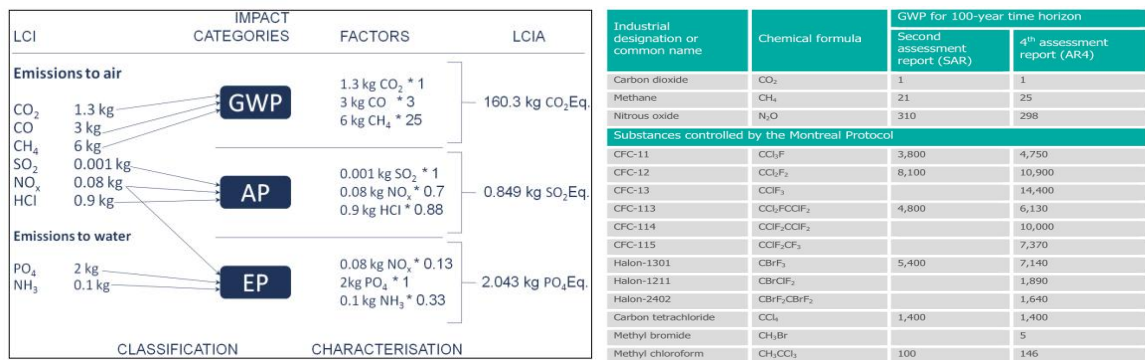

Fig. 2. Life Cycle Impacts Analysis steps and a few impact factors for CO₂ Eq.
3. Impact assessment phase. The 3rd phase of LCA is also known as Life Cycle Impact Analysis (LCIA). LCI results allow you to calculate the LCIA of the system. LCIA identifies and evaluates the amounts and significance of the potential environmental impacts of the product system. LCIA answers the question: What are the resulting impacts? Calculating is usually done using four steps, where the first two are mandatory. **Fig. 2** describes the steps with example values.